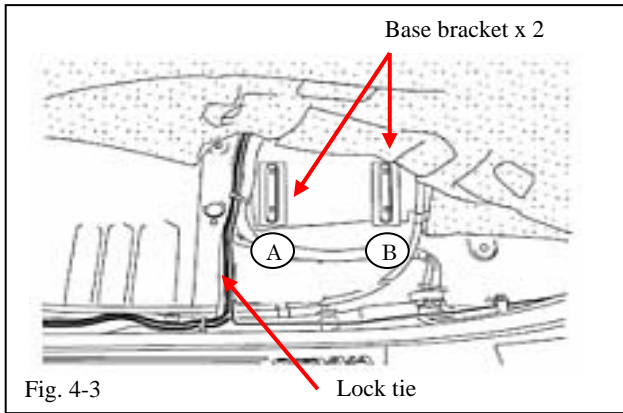

Fig. 4-3
- (e) Lock tie the AVC-LAN, ground cable, and antenna extension together with a lock tie. (Fig. 4-3)